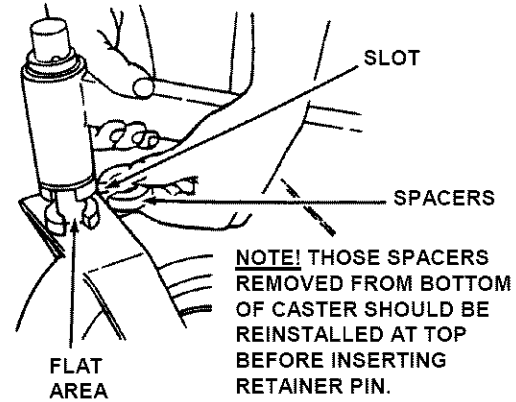

FIGURE 3.13
2. Lift Caster Support Tube while adding or removing the bottom Spacer. See Figure 3.13.